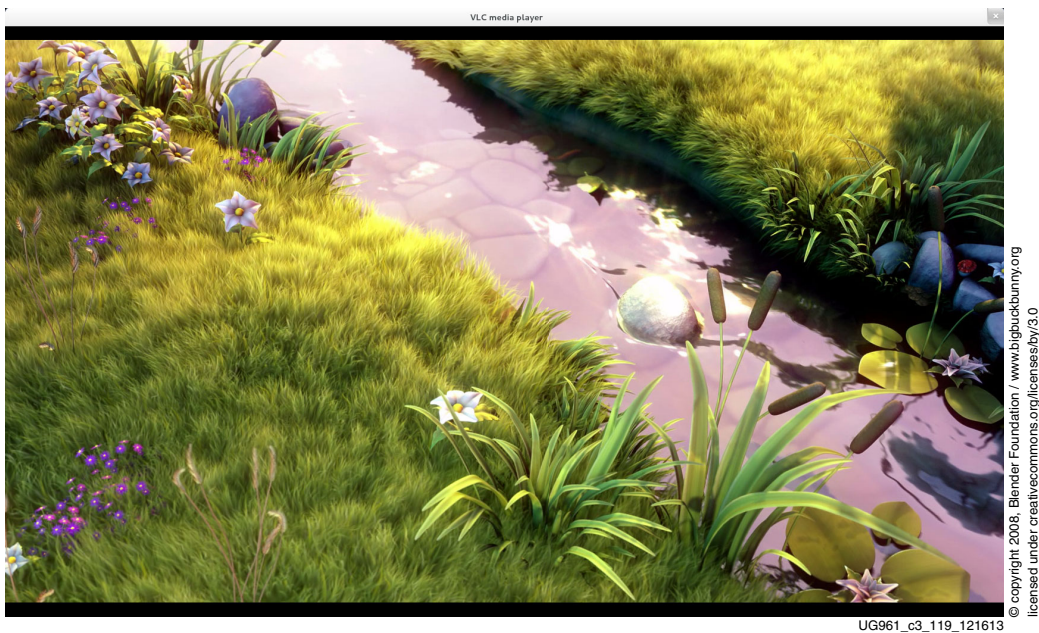
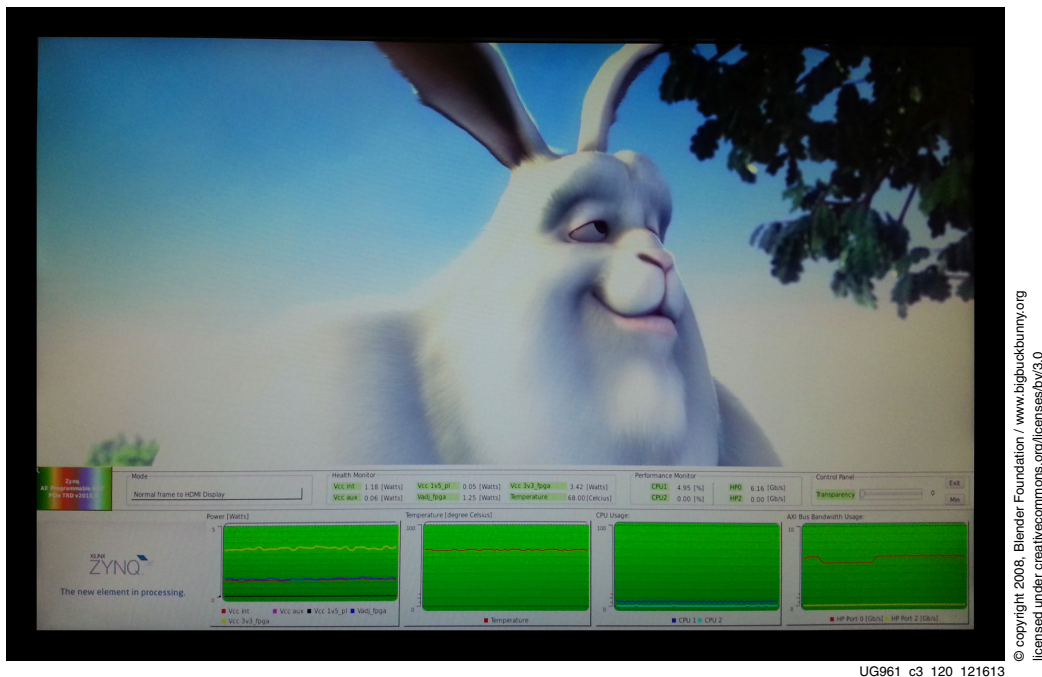

Figure 3-19: Video running on Host
Figure 3-20: Video running on HDMI Monitor with SOBEL set to None
Note: The video file used in this example and shown in Figure 3-19, Figure 3-20, and Figure 3-21 is Big Buck Bunny, available for free download from www.bigbuckbunny.org.
The video being transmitted to the Zynq-7000 SOC is displayed on the host machine in it's original form through a vlc player window as shown in Figure 3-19.
13. When the filter option is set to **None**, video data from PCIe host system is sent directly to the display without being processed by the edge-detection sobel filter. The transmitted video appears on the display as shown in Figure 3-20.